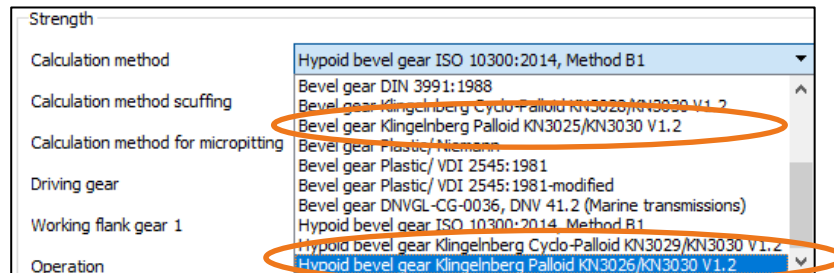

Figure 29. Selecting the «Palloid» strength calculation method
- In the «**Rating**» tab, select either the «Klingelberg palloid 3025» or «Klingelberg palloid 3026» calculation method (see Figure 29).